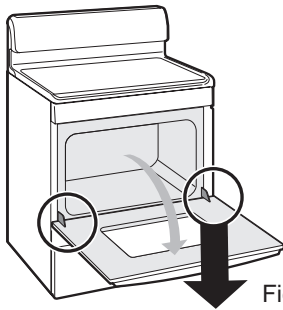

Fig. 1
1. Open oven door completely (horizontal with floor - See Fig. 1).